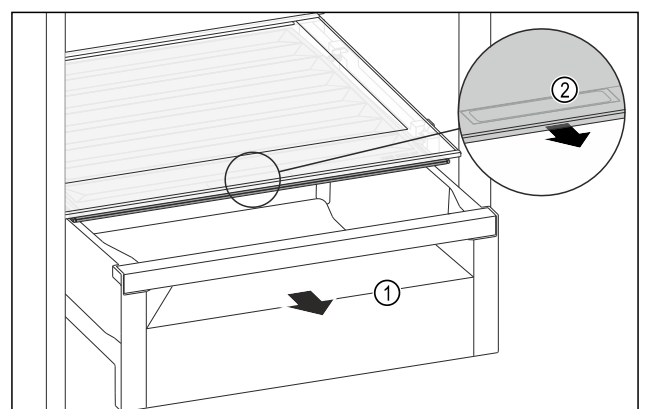

Fig. 145
- Pull out the drawer Fig. 145 (1).
- Grasp the recessed grip Fig. 145 (2) on the compartment lid and pull the compartment lid forwards at the same time.